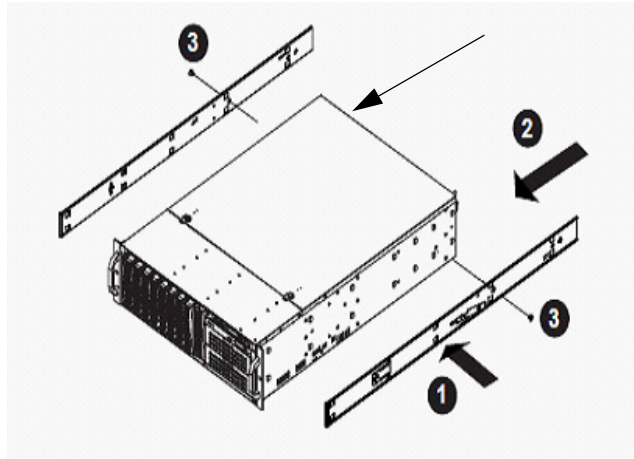

Figure 3-3 Installing the Inner Rail Extensions On the Small Rails
2. Install the inner rail extensions (refer to Figure 3-3).
- Secure the inner rail to the DSS200 chassis with the four provided screws, as shown in Figure 3-3. Repeat these steps for the other inner rail.